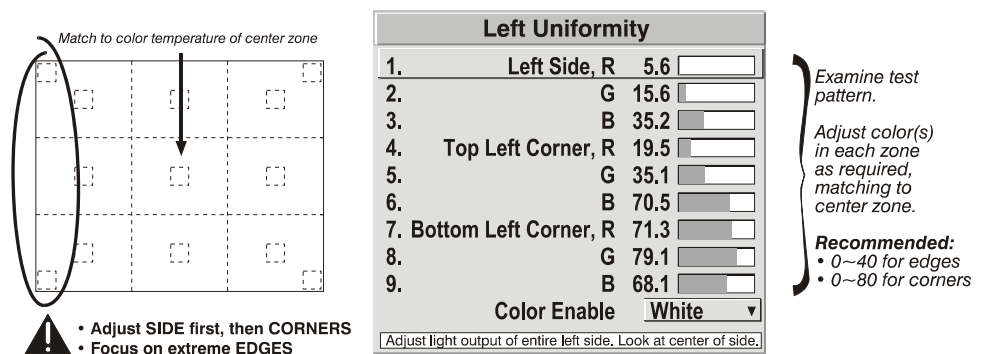

Figure 3.17. Match Zones to Center Color Temperature
- 2b)** Return to the *Brightness Uniformity* menu. Beginning with the screen that exhibits the most obvious color shift(s), for each edge that exhibits a noticeably different color temperature from the center, select the corresponding *Uniformity* adjustment menu—*Left, Right, Top* or *Bottom*. For example, if any part of the left side is too blue, too red or too green, go to the *Left Uniformity* menu and adjust the colors (i.e., change their light output) until all portions of the left side closely match the center color temperature. Adjust an edge first (focusing on its center), and then adjust its corners. See Figure 3.17.